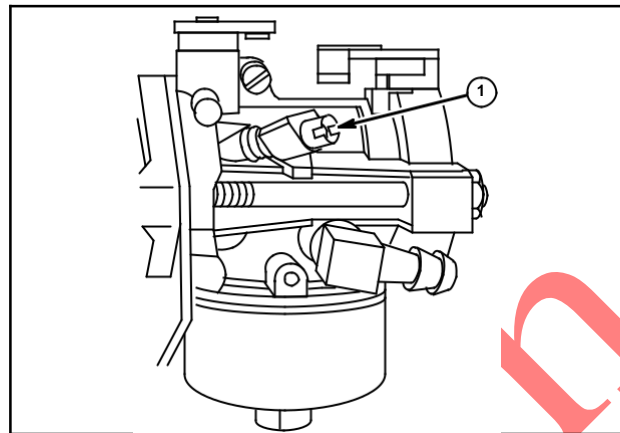

Fig. 121
7. Install limiter cap (1) at midpoint position, when used, Fig. 121.